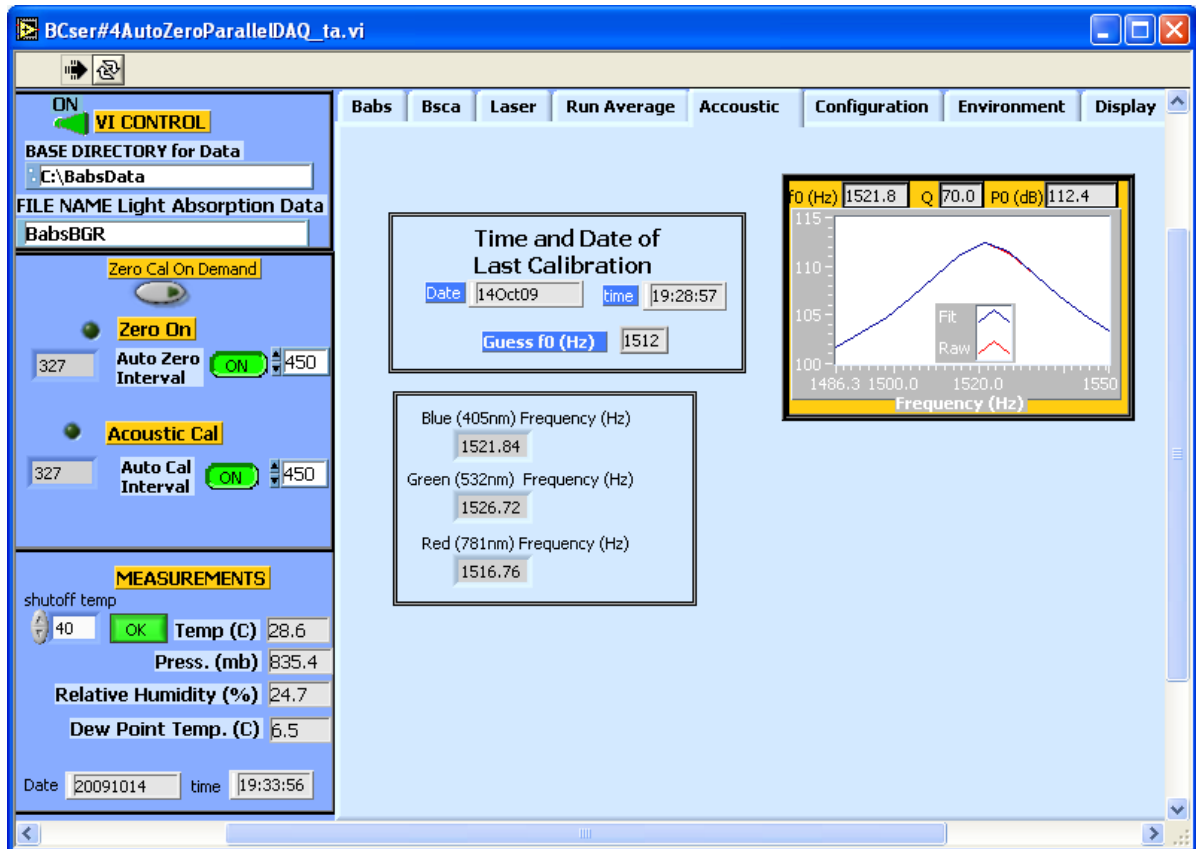

Figure 17: Acoustic Tab
Information about the last acoustic calibration is found on the **Acoustic tab** (Figure 17). The data and time of last calibration is located in the center top part of this tab. Below the date and time is the initial guess used for finding the resonance frequency of the acoustic chamber. A graph of the resonance curve is displayed in the middle of this tab with three indicators about the graph. They are the resonance frequency (f_0 (Hz)), quality factor (Q) of the resonance curve, and the pressure on resonance (PO(dB)). The lower part of the **Acoustic** has a box displaying the frequency in Hz that the PASS-3's three lasers are modulated at.